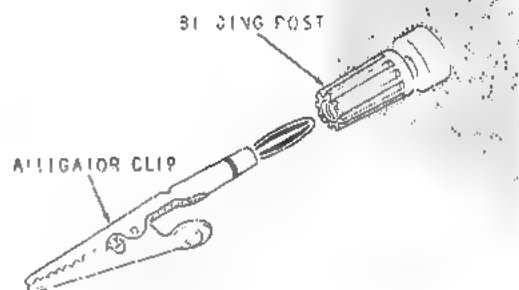

Figure 18
- () Two alligator clips with banana plugs are provided as test leads. These plug into the terminals of the bridge as shown in Figure 18. The unknown may then be clipped between them.